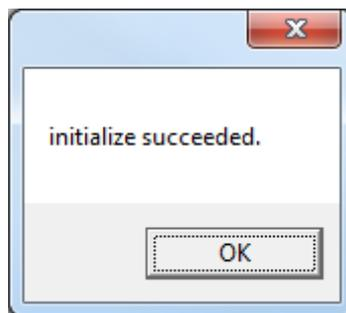

Figure 19. Setting success
- 9) Click the "OK" button to complete making changes to the setting, as shown in Figure 19.